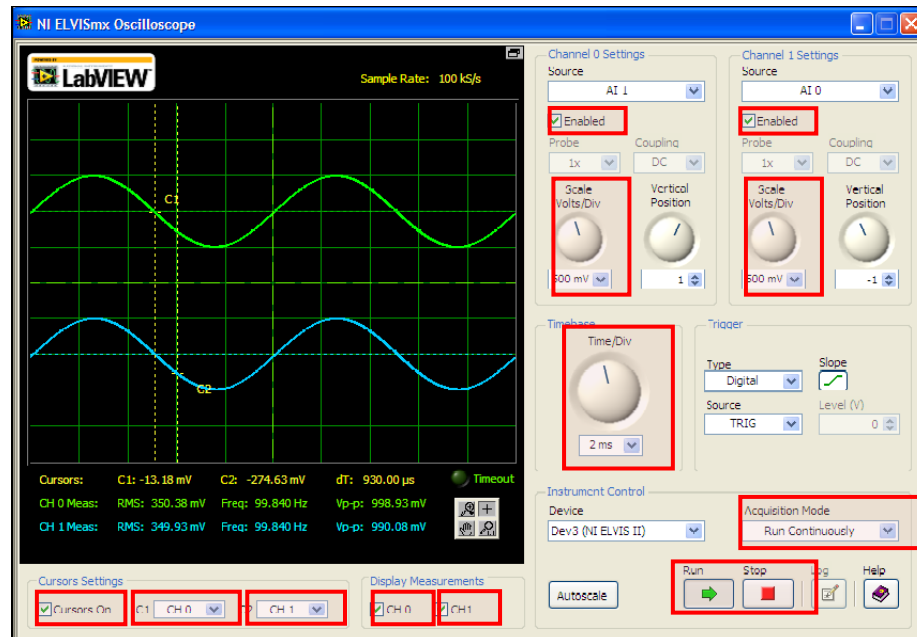

Figure 2.9: Screenshot of NI ELVISmx Oscilloscope
**Oscilloscope (Scope):** Measures voltage waveforms on two different channels. Connect the black lead to the ground and the red lead to the voltage to be measured. The separate controls for channel A and channel B are identical. There are also time and trigger controls that apply to both channels. Figure 2.9 shows the NI ELVIS Oscilloscope with the most used tabs shown in red boxes.